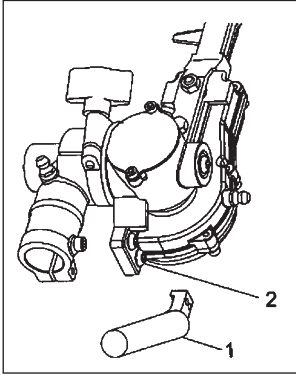

Fig. 2-2
3. Make sure the locking bolt (1) fits in the location hole (2) of tube and that the tube will not come off.
4. Tighten the clamp bolt (3) securely.
Installation of support handle (1) (Fig.2-2)
1. Remove 2pcs of hex. hole screw (2) from gear case.
2. Install support handle (1) onto gear case by removed hex. hole screws (2). Then tighten hex. hole screws securely.